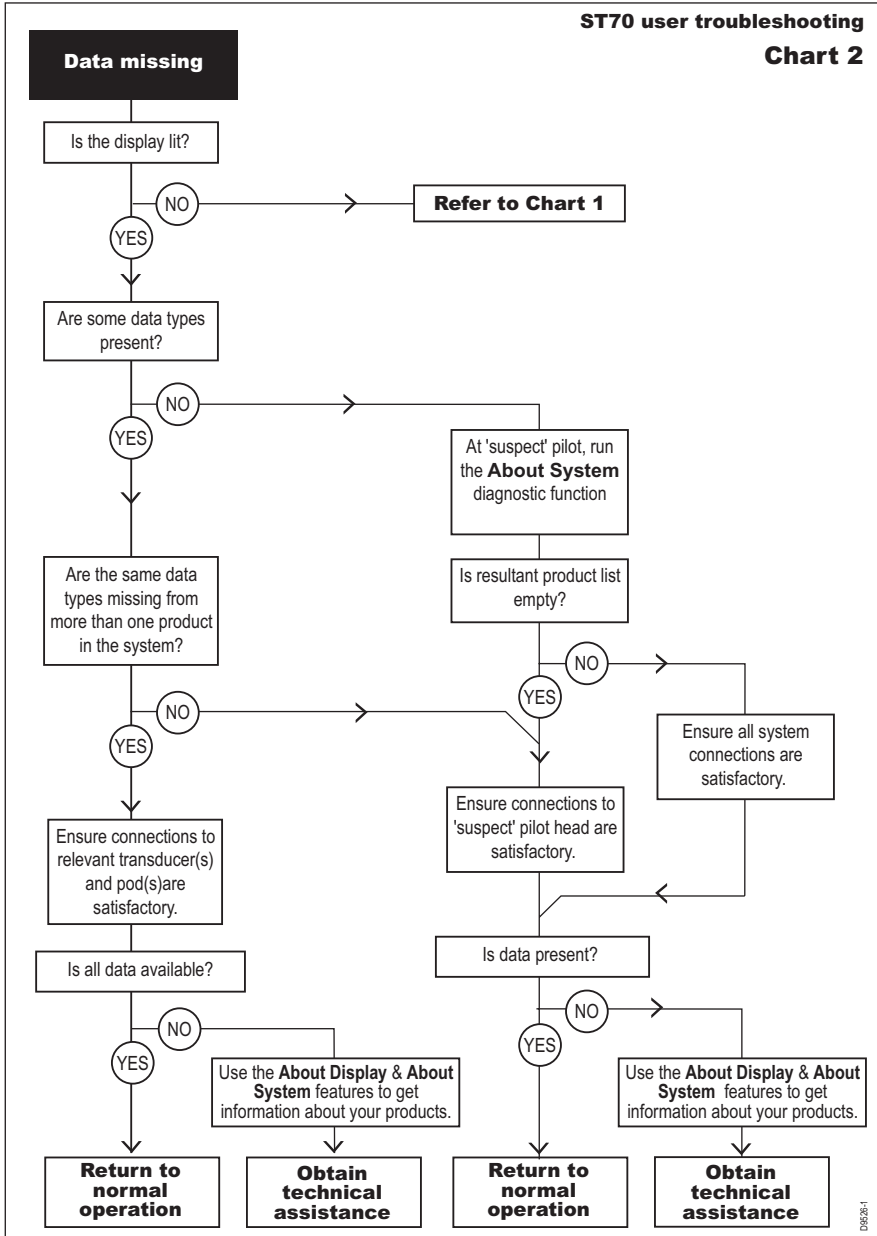

Figure 4-2 ST70 troubleshooting – Chart 2
- Data missing from the pilot head screen - refer to *Figure 4-2* on page 30